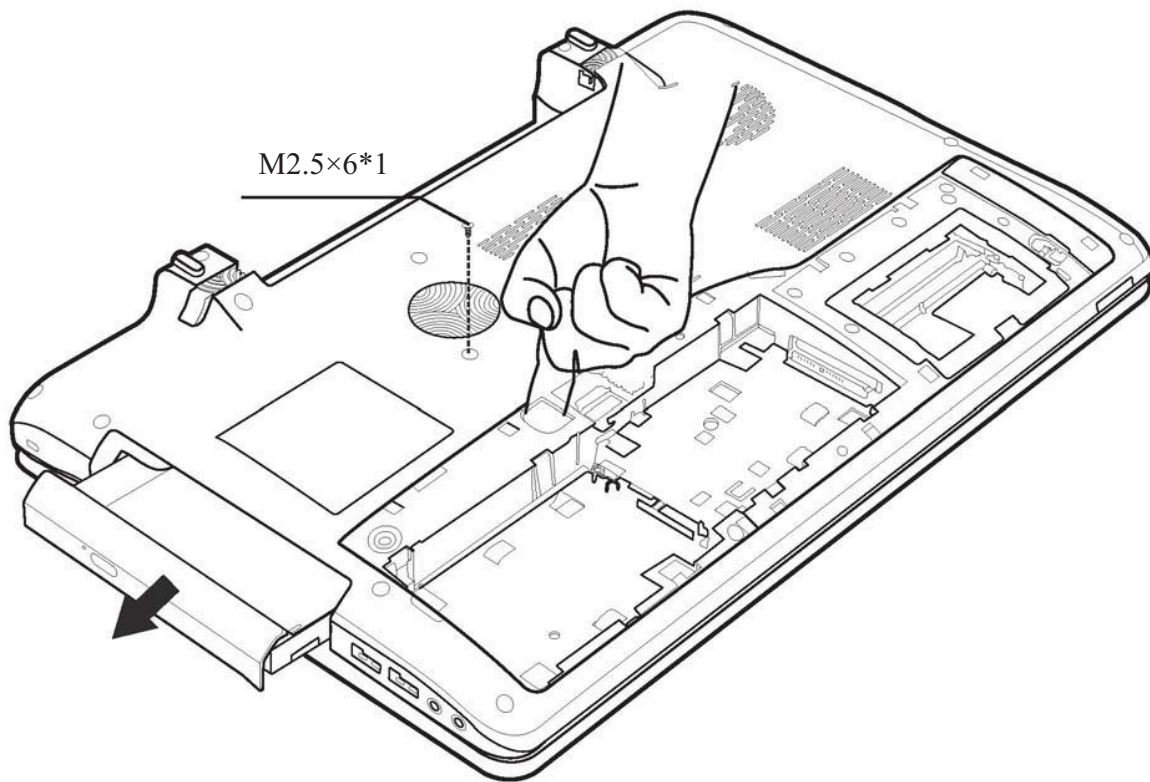

Figure 4-9 Removing the ODD
Remove the ODD (optical disc drive) according to the following procedures and Figure 4-9.
3. Push the ODD outward as indicated in Figure 4.9 and then remove the ODD.